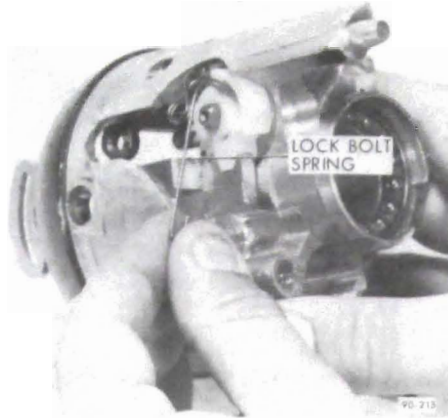

Figure 90-143 - Removing Lock Bolt Spring
2. Remove lock bolt spring by removing spring retaining screw and moving spring clockwise to remove from bolt. See Figure 90-143.
retaining screw. Torque to 35 pound inch. See Figure 90-143.